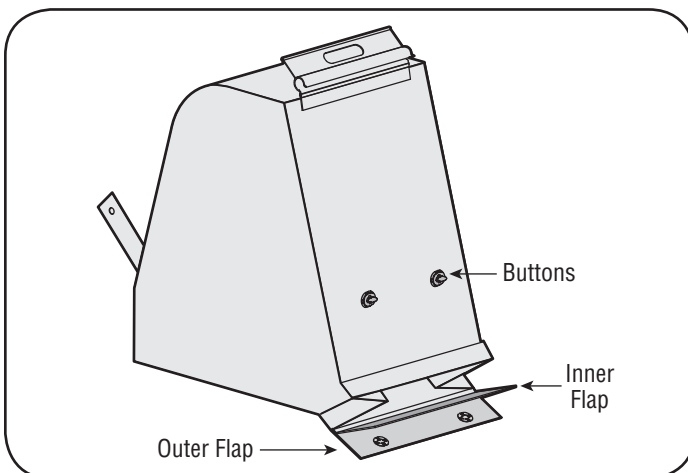

Figure 12
2. Twist the two buttons on the back of the bag to unlock and empty contents. See Figure 12. Hold bag handle and bag clip while emptying the contents.
4. Fold outer flap over inner flap and insert buttons on the bag through metal outlets. See Figure 12.